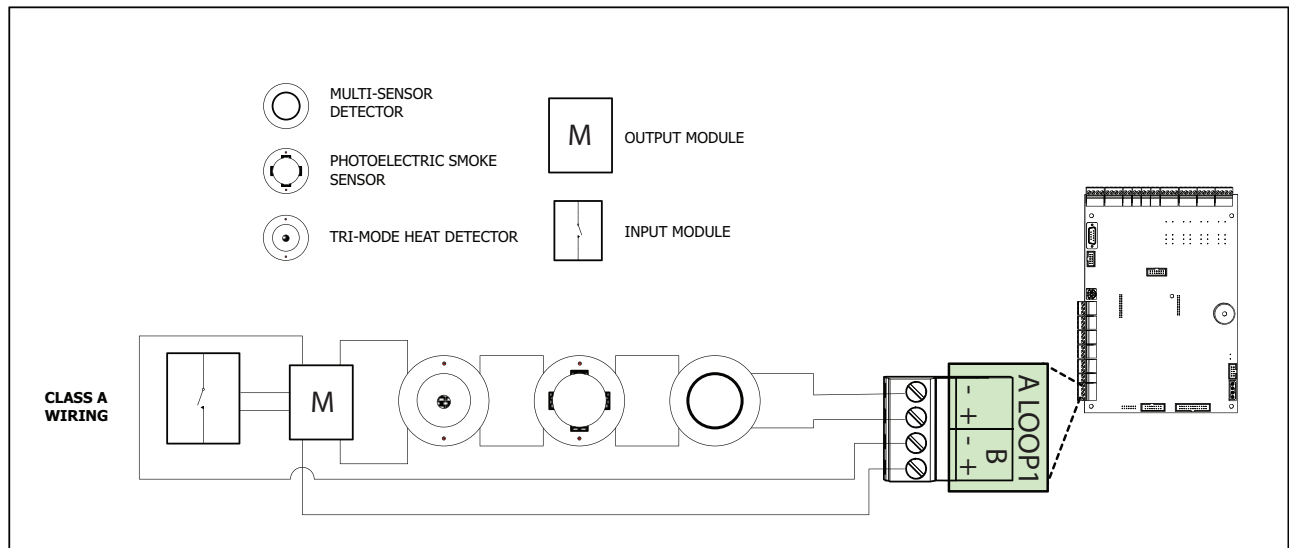

Figure 15 Addressable Loop Wiring - Class A (DCLA)
The circuit must be supervised for opens utilizing the End of Line Relay Model EOLR-1(A) as shown in Figure 15. This supply is rated at 24VDC regulated/500mA max/1V voltage drop maximum.